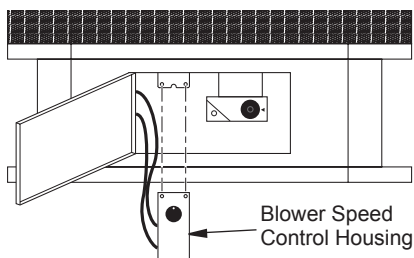
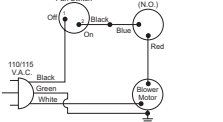

Figure 18 - Installing Blower Control Housing
Figure 22 - Connecting Switch, Blower and Speed Control Wires
14. Install plastic control knob onto output shaft of speed control housing (see Figure 17). Place speed control housing just inside control compartment door in front of stove (see Figure 18, page 14).
15. Using two screws provided in blower kit, mount blower speed control housing to mounting tab in left side of lower control compartment (see Figure 18).
15. Working from the rear of the stove, place entire power cord, including speed control housing, in lower control compartment (see Figure 22).
16. Route ends of 3-wire power cord up from the lower control compartment through the plastic bushing, then up to the upper cavity of stove (see Figure 22).
17. Connect white wire from speed control to either terminal on blower motor (see Figure 22). Push firmly.
18. Connect the black wire from speed control to blue wire on switch/cover assembly (see Figure 22).
19. Connect red wire from switch/cover assembly to remaining terminal on blower motor (see Figure 22). Push firmly.
20. Attach green wire from speed control to front tab of blower housing using screw provided (see Figure 22). Tighten securely.
22. Install plastic control knob onto output shaft of speed control housing (see Figure 22, page 15). Place speed control housing just inside control compartment door in front of stove (see Figure 18, page 14).
23. Using two screws provided in blower kit, mount blower speed control housing to mounting tab in left side of lower control compartment (see Figure 18, page 14).
26. Peel off the backing paper and stick the supplied wiring diagram decal on the stove floor as shown in Figure 22, page 15.